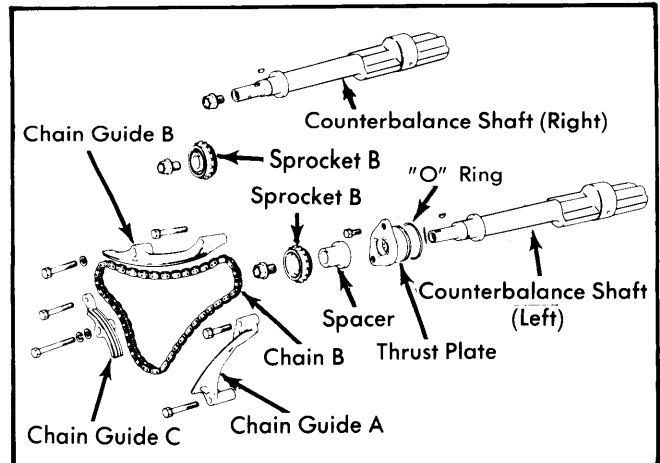

Fig. 8 Exploded View of Counterbalance Shafts and Drive Chain (2000 and 2600 cc)
Removal — Remove crankshaft pulley and timing chain case. Remove chain guides A, B and C, sprocket B locking bolts and crankshaft sprocket (B). Remove both countershaft sprockets (B) and Drive Chain. See Figs. 8 and 9.
Installation — Refer to Figs. 8 and 9 for component location and reverse removal procedure. Ensure that mating marks on sprockets align with plated links on counterbalance chain. Adjust tension by installing guides A and C, then shake counterbalance shaft sprockets to take slack from chain. Adjust guide B so that there will be .040-.140" (1.0-3.5 mm) clearance between guide and chain at point P. Tighten guide mounting bolts and complete assembly.